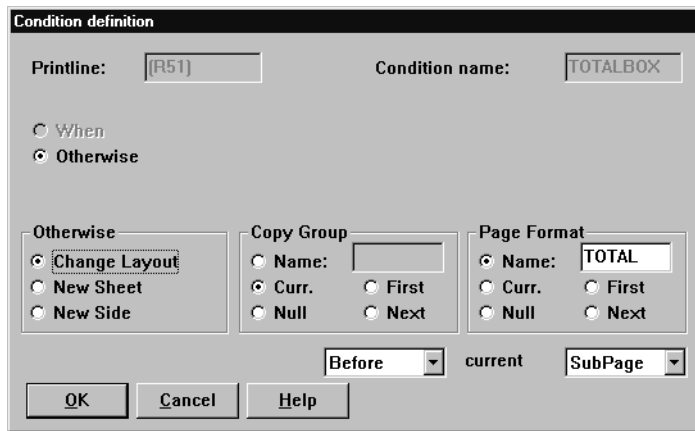

Figure 27. Otherwise condition
11. Click on the **Insert** button again. In this example, there are only two choices. (a "Continued" page or a "Total" page). Once the first choice is defined, we can use the **Otherwise** function. Click on the **Otherwise** radio button, and then make the selections so that the **TOTAL** page format will be used. Your display should look like Figure 27.